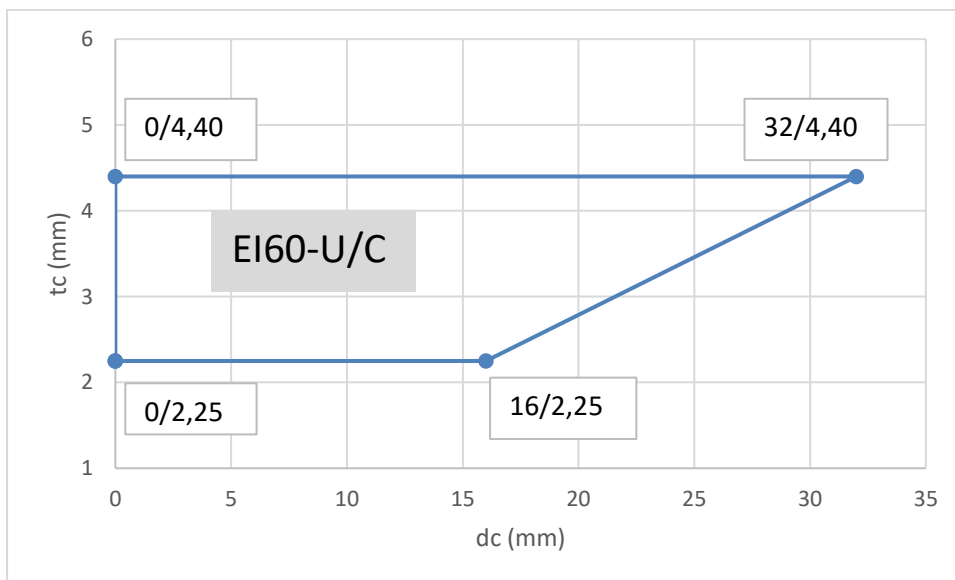

Figure 42: Classified range for insulated PE-Xa-pipes, penetrating CFS-CT HDB, sealed by CFS-IS
Classification given in Figure 42 is valid for:
- For dimension refer to Figure 42